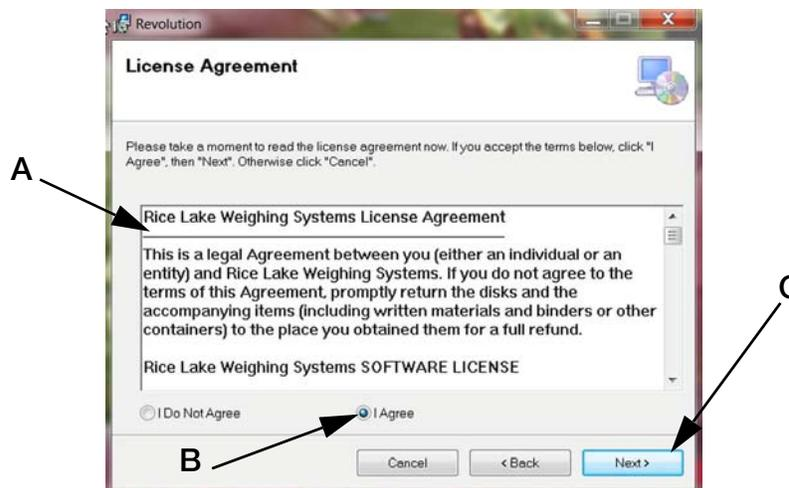

Figure 4-5. License Agreement Screen
4. Then at the *License Agreement* (Figure 4-5) screen, read the agreement (A), select “Agree” (B) and click Next (C).